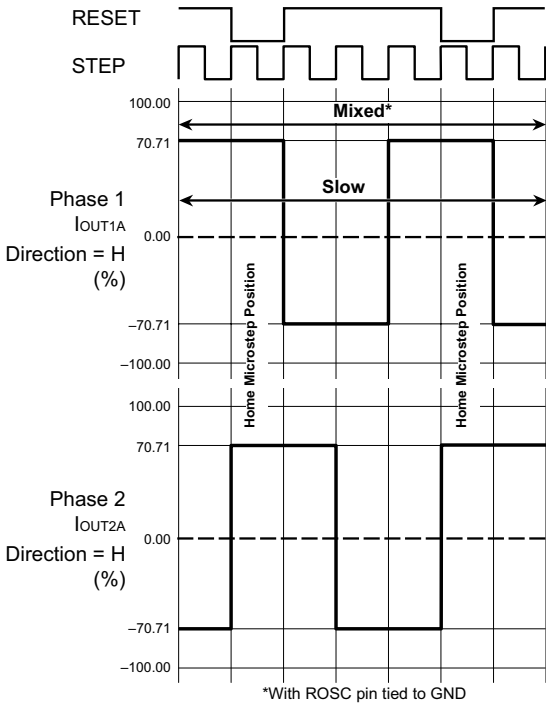

Figure 8: Decay Mode for Full-Step Increments
At power-on or reset, the translator sets the DACs and the phase current polarity to the initial Home state (shown in Figures 8 through 11), and the current regulator to Mixed Decay Mode for both phases. When a step command signal occurs on the STEP input, the translator automatically sequences the DACs to the next level and current polarity. (See Table 2 for the current-level sequence.) The microstep resolution is set by the combined effect of the MSx inputs, as shown in Table 1.
according to the ROSC configuration and the step sequence, as shown in Figures 8 through 11. During Mixed decay, when the trip point is reached, the A4984 initially goes into a fast decay mode for 31.25% of the off-time,  $t_{OFF}$ . After that, it switches to Slow decay mode for the remainder of  $t_{OFF}$ . A timing diagram for this feature appears on the next page.
**Reset Input ( $\overline{RESET}$ ).** The  $\overline{RESET}$  input sets the translator to a predefined Home state (shown in Figures 8 through 11) and turns off all of the FET outputs. All STEP inputs are ignored until the  $\overline{RESET}$  input is set to high.
**Mixed Decay Operation.** The bridge can operate in Mixed Decay mode, depending on the step sequence, as shown in Figures 8 through 11. As the trip point is reached, the A4984 initially goes into a fast decay mode for 31.25% of the off-time,  $t_{\text{OFF}}$ . After that, it switches to Slow Decay mode for the remainder of  $t_{\text{OFF}}$ . A timing diagram for this feature appears in Figure 7.